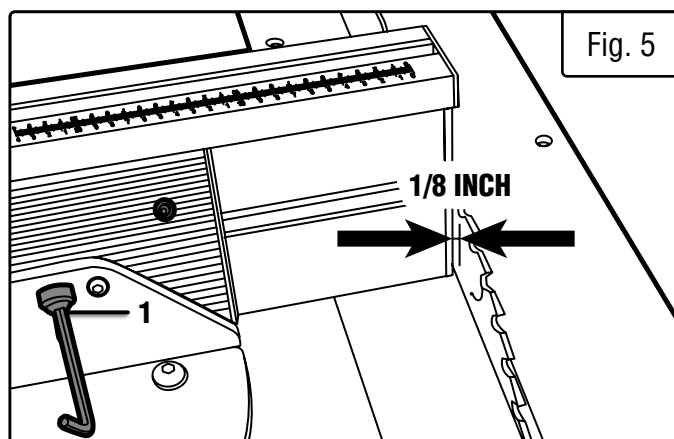
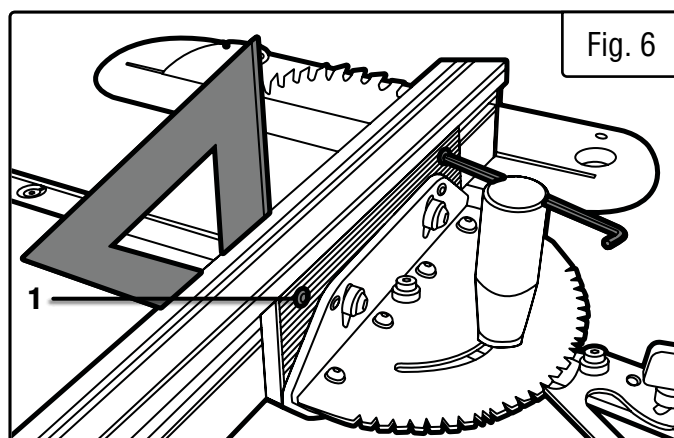

Fig. 5
Fig. 6
6. Slide the fence until it's about 1/8" away from the saw blade, then tighten the cap screws using a 4mm hex wrench (Fig. 5 - 1).
7. Use a combination square to check that the fence and tabletop are square (Fig. 6). If so, proceed to the next step. If not, loosen the cap screws (Fig. 5 - 1) about a quarter turn, then use a 3mm hex wrench to adjust the two adjustment screws (Fig. 6 - 1) on the fence block. Once the fence and tabletop are square, tighten the cap screws.